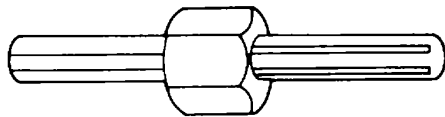
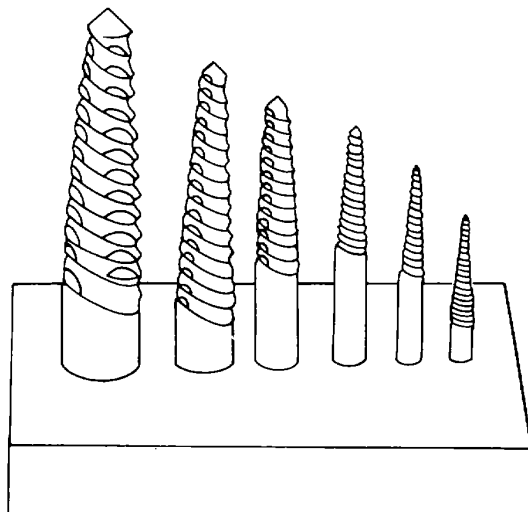

Figure 4-107. Straight Screw Extractor
Figure 4-108. Spiral Screw Extractors
(1) *Screw extractors.* Some screw extractors, as shown in figure 4-107, are straight. They have flutes from end to end. These extractors are available in sizes to remove broken screws having 1/4 to 1/2 inch outside diameters. Spiral tapered extractors, shown in figure 4-108, are sized to remove screws and bolts from 3/16 inch to 2 1/8 inches outside diameter.